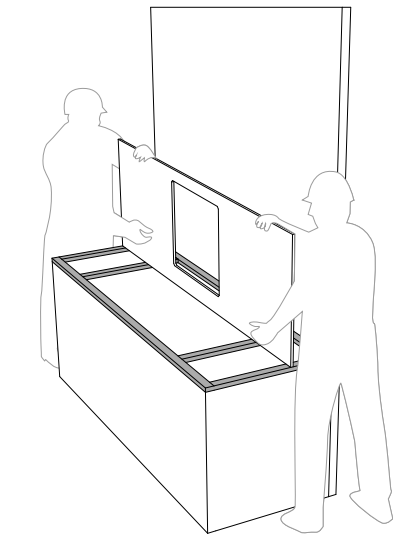

fig. 1
The countertop must be transported in a suitable manner to the installation site; it must absolutely never be walked on (even if still packaged) and, during unpacking, it must be removed and handled vertically. It is of primary importance to ensure that the support base on which the countertop will be placed is structurally sound and perfectly flat (fig. 1). It is also recommended to pay particular attention to the gluing phases, spreading the adhesive uniformly over the entire support area to allow optimal adhesion to the slab. In this regard, please note that shortly after installation, the settling of the cabinets, the weight of the furniture, heat, and humidity can alter the leveling. Therefore, a post-sale inspection is suggested a few months after installation to check and adjust the countertop leveling.
- Position the countertop vertically, placing it against the kitchen support wall (fig. 1);
- Distribute the silicone evenly on the support crossbeams for optimal adhesion of the slab (fig. 1);